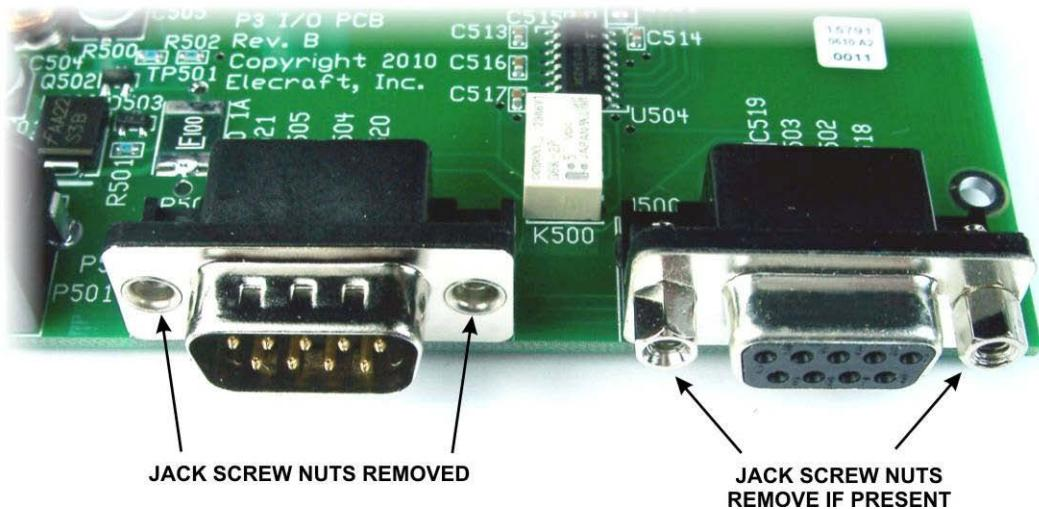
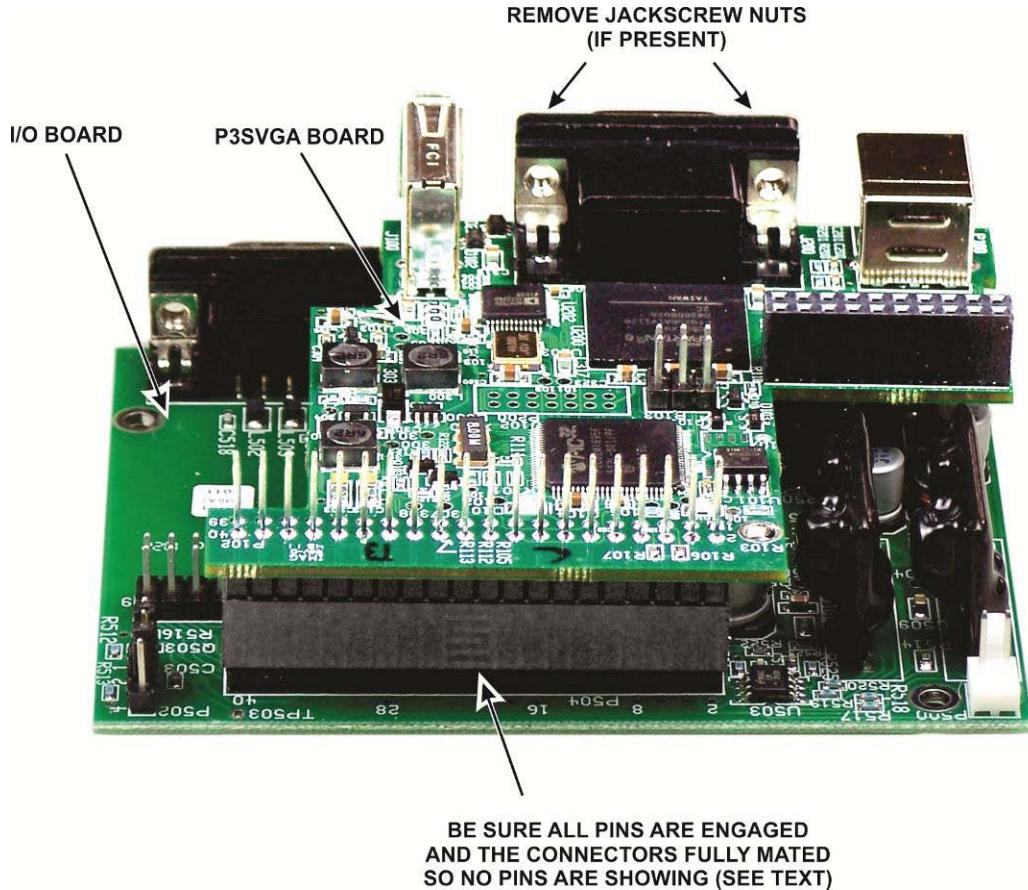

Figure 14. Preparing the I/O Board for Installation.
Figure 15. Mating the P3SVGA and I/O Boards.
- Remove the I/O printed circuit assembly from its anti-static packaging and check to see if either of the two multi-pin connectors have jack screw nuts installed (see Figure 14). These are the nuts the jack screws on the connector shells screw into to secure them. If either connector has jack screw nuts installed, remove them.
- If you have the P3SVGA board to install at this time, check the connector and remove the jackscrew nuts if present, just as you did for the I/O board connectors (Figure 14). Mount the P3SVGA board on the I/O board as shown in Figure 15. Be sure the connectors are aligned so that all pins engage. To avoid over-stressing the boards, place the I/O board on a firm surface or support it with your fingers. You may need to rock the P3SVGA board slightly while pressing down to “walk” the pins into the connector/